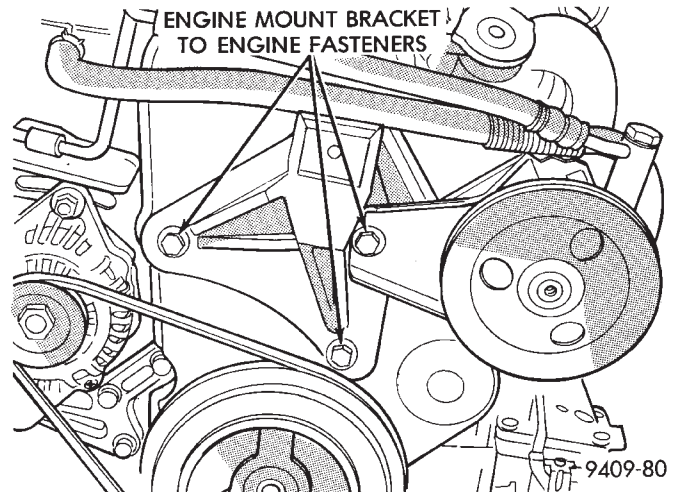

Fig. 34 Right Engine Mount Bracket
- (3) Remove crankshaft vibration damper. Refer to procedure outlined in this section for removal.
- (4) Lower vehicle and place a jack under engine.
- (5) Remove right engine mount. Refer to procedure outlined in this section.
- (6) Remove power steering pump assembly and set aside.
- (7) Remove right engine mount bracket (Fig. 34).